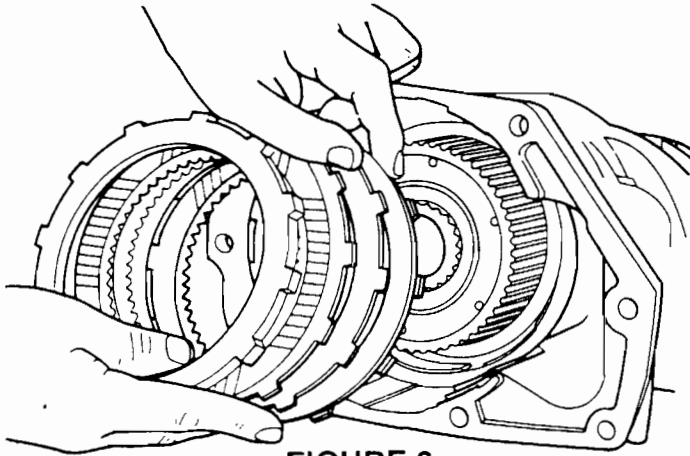

FIGURE 8
2. Take a close look at each clutch component for signs of wear. Replace if necessary (Figure 8).